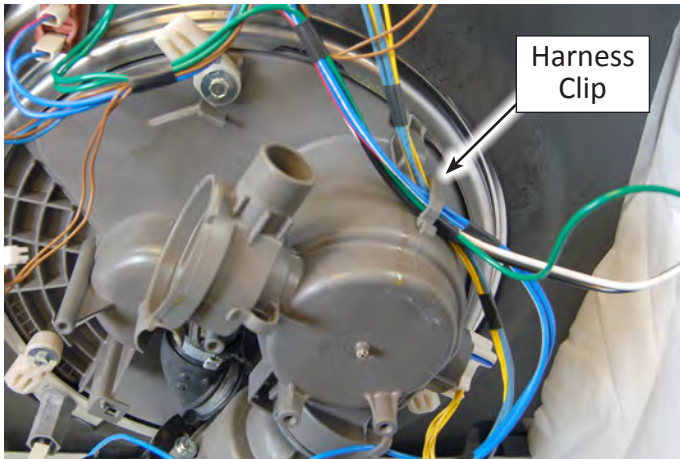

Figure 1
3. Remove the wire harness from the bracket on the side of the sump and move off to the side, (see Figure 1).